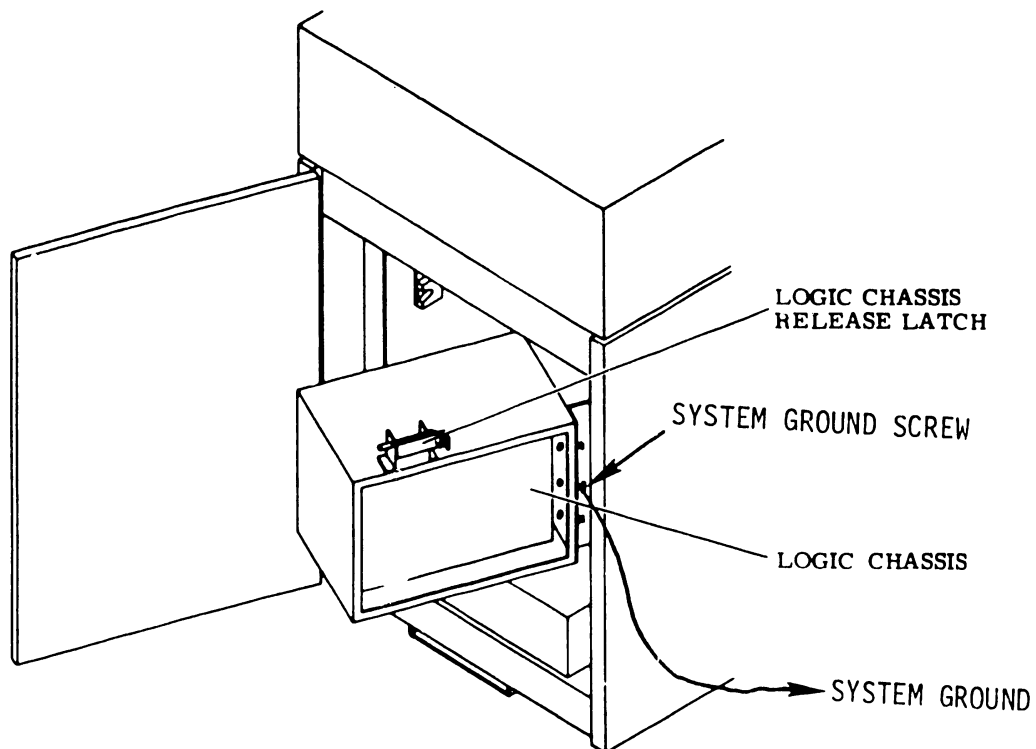

FIGURE 4-32 SYSTEM GROUNDING
- E. Attach the system ground lead from the bolt on the Processor Mainframe (shown in Figure 3-2) to the system ground screw (middle screw on right side of logic chassis) on the logic chassis of the disk drive (Figure 4-32). If more than one disk drive is attached to the 22V03/04 IOP, attach the system ground in daisy chain fashion from one disk drive to the next.